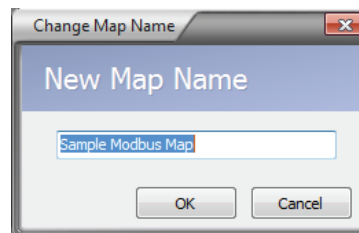

Figure 6.1—Change Map Name dialog
1. Choose **Options>Change Map Name**. The *Change Map Name* dialog (Figure 6.1) will appear.